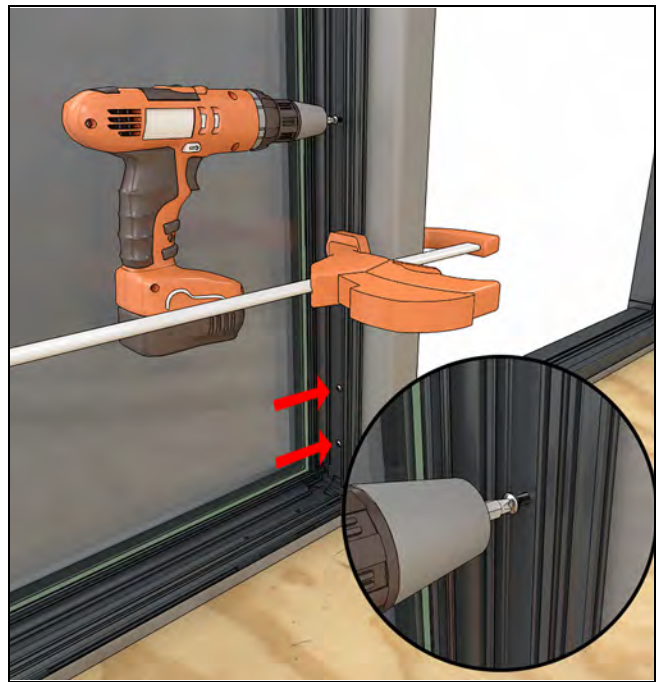

Figure 237
19. Fasten the second frame to the mull steel using the #8 x 1/2" trilobular screws included. See Figure 237.